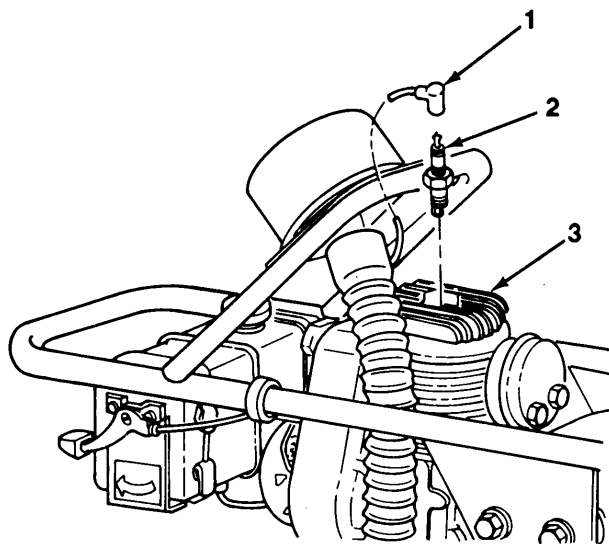

Figure 9-3. Spark Plug Replacement.
- Refer to Figure 9-3, *Spark Plug Replacement*.